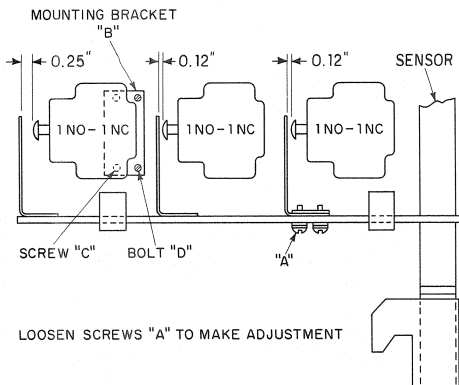

Fig. 42. Adjustments of interlock assembly
5. After sensor bar has been properly located, adjust the gap between the interlock plungers and the depressor brackets as shown in Fig. 42. Slots are provided in the depressor bars to permit adjustment.
An electrical interlock can be replaced by following the steps outlined below (see Fig. 42).